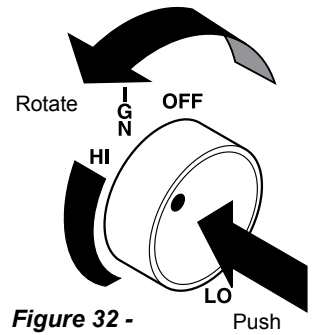

Figure 32 - HIGH Position
10. Push in control knob and turn counterclockwise to the HIGH setting. At this location the control knob will pop out when positioned correctly. The knob can now be positioned at any position between HIGH and LOW. Figures 32 and 33